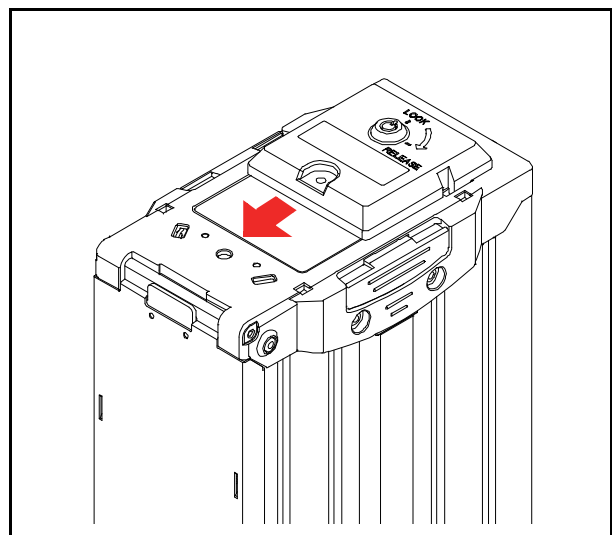

Figure 15 Frame Lock Installation 4
5. Slide the Frame Lock assembly down to firmly latch it on to the Cash Box (Figure 15).